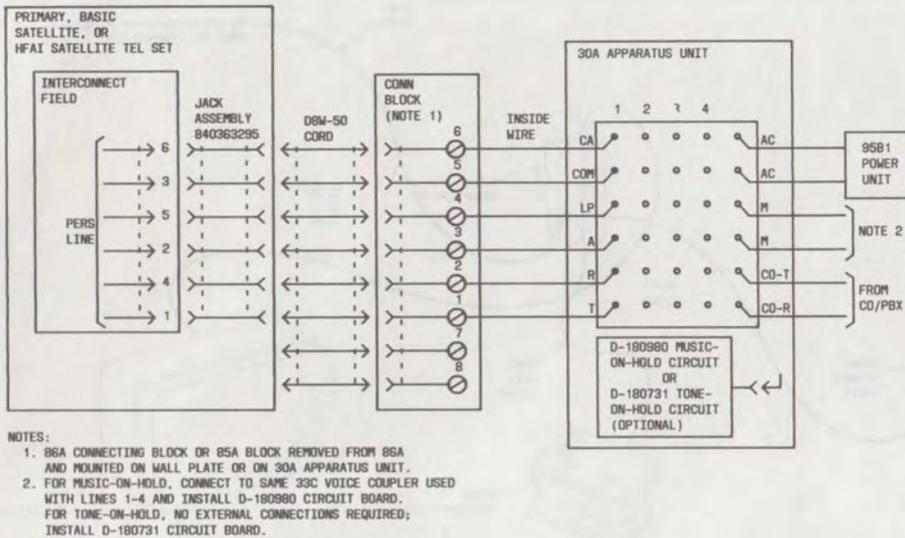

Fig. 43—Personal Line Connections for Primary, Basic Satellite, or HFAI Set Using 30A (MD) Apparatus Unit
- (1) After the 30AM apparatus unit is connected to the 86A block associated with the BIS satellite set, no further installation is required. The DSW cord which connects power to the speakerphone circuit also provides the necessary personal line connections.
- (2) Be sure that the personal line is connected to terminals 1 through 6 and the 2012B transformer to terminals 7 and 8.
*In existing installations, the 30A (MD) apparatus unit may be used for personal line; it is permissible to reuse this unit in other installations. Connections are shown in Fig. 43 and 44.*
3.70 Connections for personal line on the 30A (MD) apparatus unit are shown in Fig. 43 and 44.